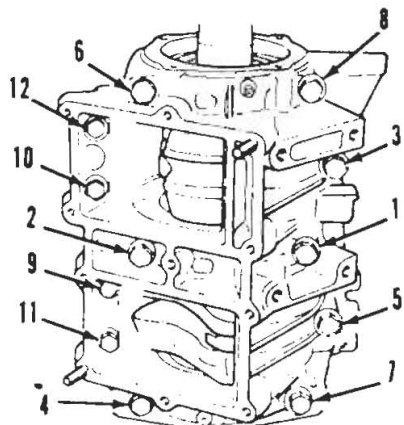
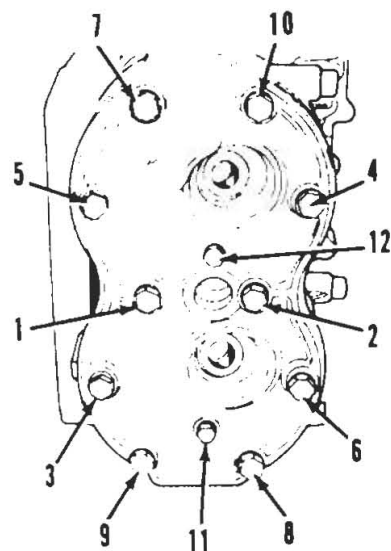
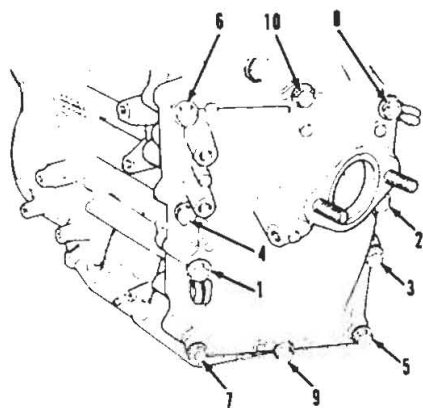

Fig. SZ11-9—Tighten crankcase screws in the sequence shown. Refer to **CONDENSED SERVICE DATA** for screw torques.
Fig. SZ11-10—Tighten cylinder head screws in sequence shown. Refer to **CONDENSED SERVICE DATA** for screw torques.
Fig. SZ11-11—Securely tighten intake manifold screws in sequence shown.
Lubricate crankpin bearings and cylinder walls of cylinder block with Suzuki engine oil or a suitable NMMA certified two-stroke engine oil. Install crankshaft assembly in crankcase. Make sure flange of lower oil seal (7—Fig. SZ11-12) and middle labyrinth seal (5) fits properly in crankcase grooves. Make sure bearing pins engage notches in crankcase. Spread a coat of Suzuki Bond No. 1215 or a suitable equivalent on the mating surfaces of the crankcase and the cylinder block. Position crankcase half on cylinder block and tighten the crankcase screws in the sequence shown in Fig. SZ11-9 to torques shown in **CONDENSED SERVICE DATA**. Tighten the cylinder head screws in the sequence shown in Fig. SZ11-10 to torques shown in **CONDENSED SERVICE DATA**. Tighten the intake manifold screws in the sequence shown in Fig. SZ11-11.